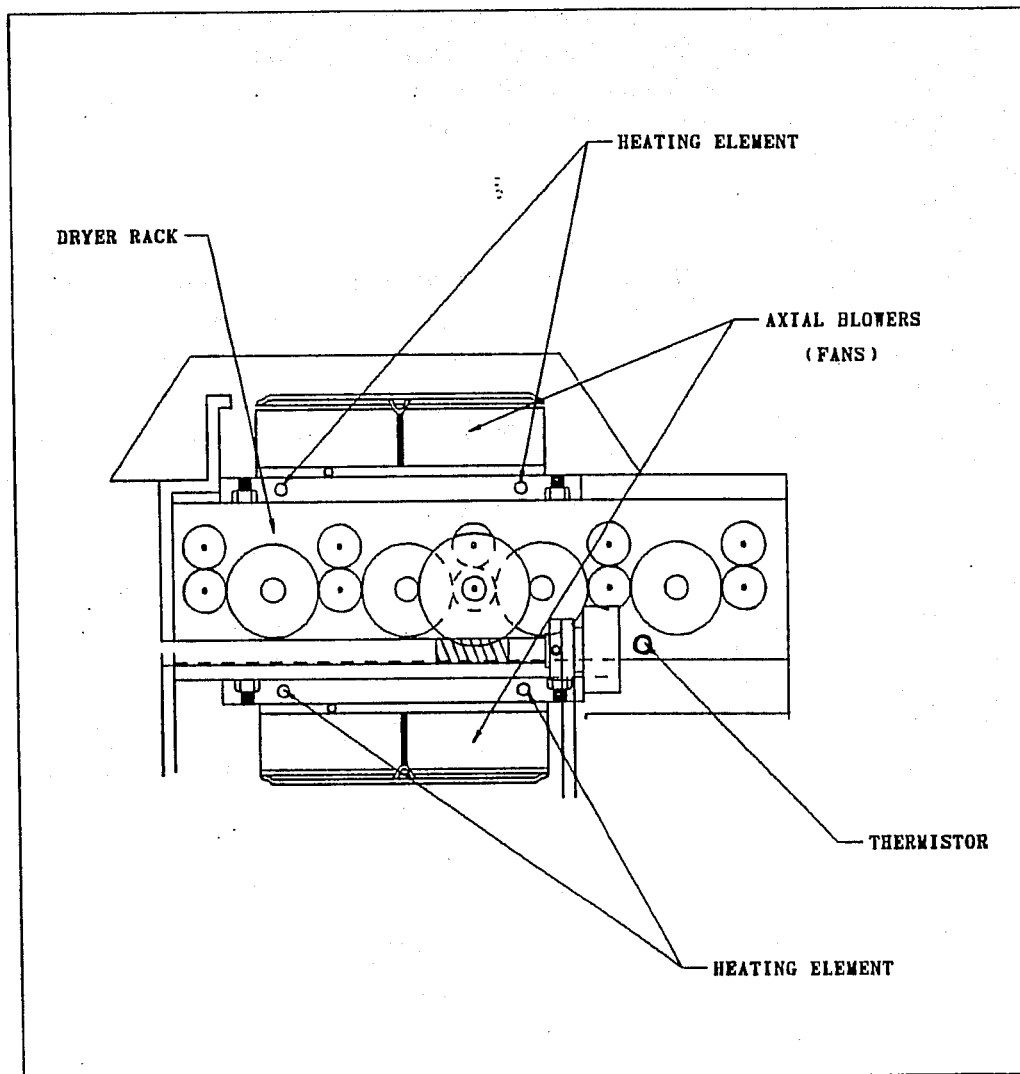

FIGURE 4-2
4.4 DRYER SECTION (See Fig. 4-2)